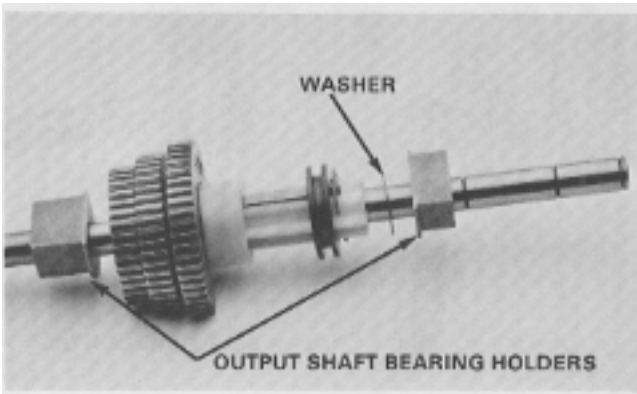

Figure 48
8. Complete the output shaft assembly by sliding a spacer washer and the other output bearing assembly onto the output shaft. See Figure 48.